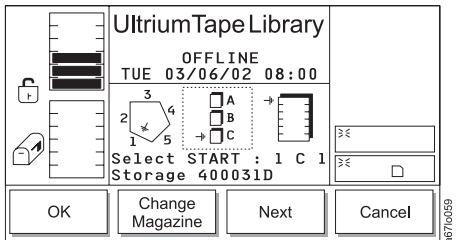

Figure 4-74. Change Magazine Dialog
- a. Press the button below the **Change Column** softkey until the arrow in the left icon points to the column that you want. Press the button below the **Next** softkey. The Change Magazine Dialog displays (see Figure 4-74).